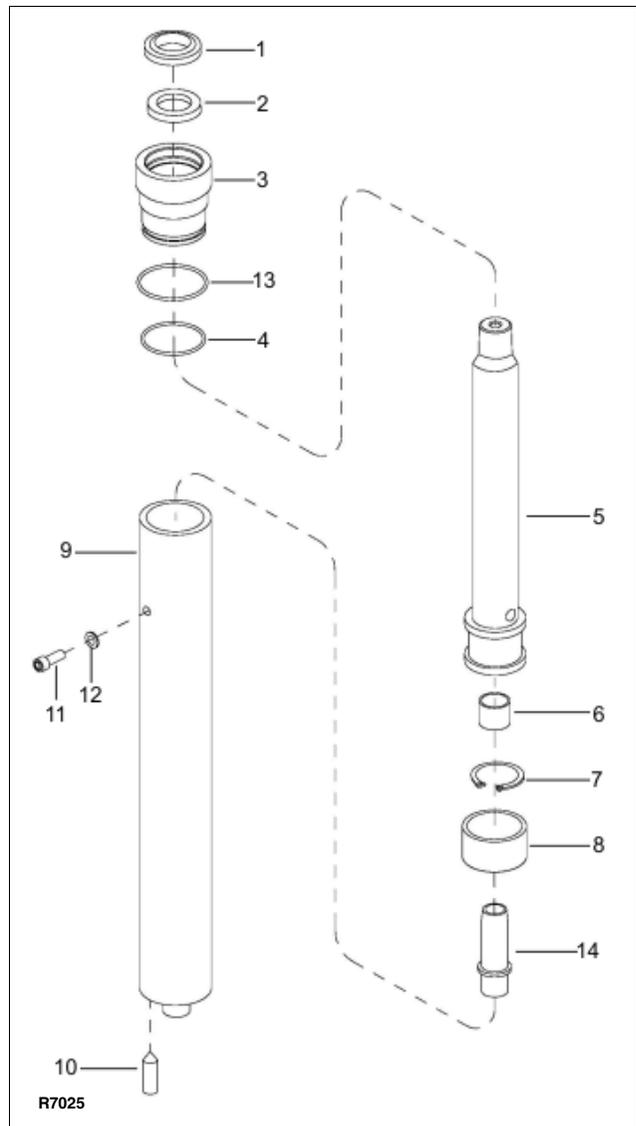

Figure 8-9 Lift Cylinder (TRIMAST Secondary)
2. Remove screw (11, Figure 8-9) and washer (12).